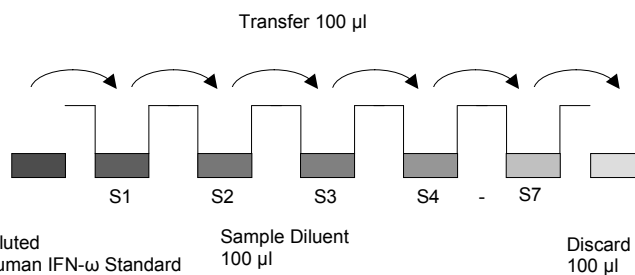

Fig. 1 Dilute standards - microwell plate
- Add 100 µL of Sample Diluent in duplicate to all standard wells. Pipette 100 µL of diluted standard (see "Preparation of standard: " on page 2), (concentration = 600.0 pg/mL) in duplicate into well A1 and A2. Mix the contents of wells A1 and A2 by repeated aspiration and ejection (concentration of standard 1, S1 = 300.0 pg/mL), and transfer 100 µL to wells B1 and B2, respectively (see Figure 1). Take care not to scratch the surface of the microwells. Continue this procedure 5 times, creating two serially diluted columns of human IFN-ω standard dilutions ranging from 300.0 to 4.7 pg/mL. Discard 100 µL from the last microwells (G1, G2). Final volume in all wells is 100 µL.